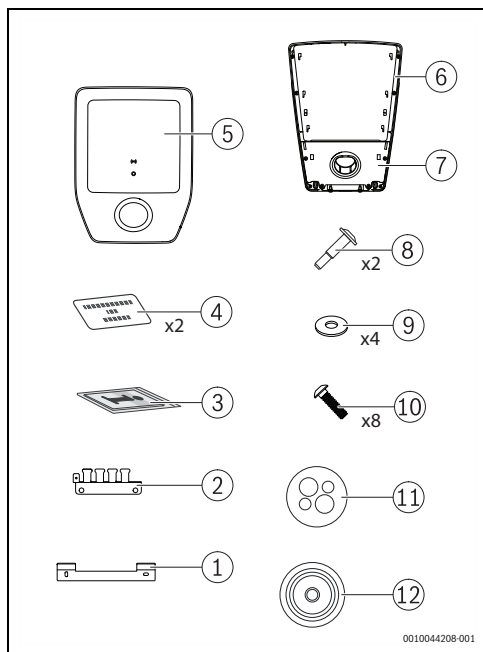

Fig. 25 Scope of delivery
- Carefully remove the cover [5] and the cap with the parking holder [7] from the Power Charge 7000i (→ Fig. 25, page 29).